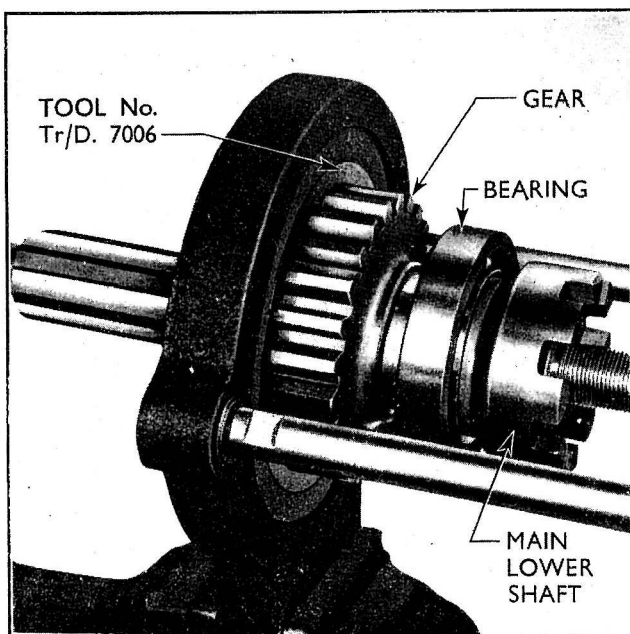

Fig. 163
- 4 The reassembly of the main drive shaft, reverse pinion and lower shaft pinion is most conveniently carried out before fitting into the gearbox. Locate the large bearing on the lower shaft, pass the gear (shoulder first) along the gear to engage the larger splines. (See Fig. 163.) Place this assembly in tool No. Tr/D 7006 and press the shaft through the gear. As it moves through, locate the bearing on the gear shoulder. Fit the circlip behind the gear and remove the assembly from the tool.